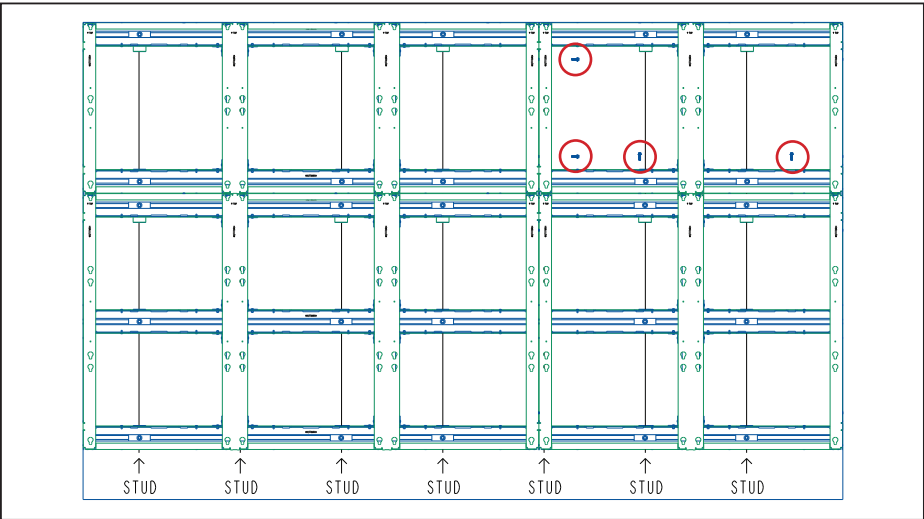

Figure 13: Install Remaining Frames
6. Install the remaining frames while leaving the frames slightly loose from the wall. Refer to **Figure 13**.